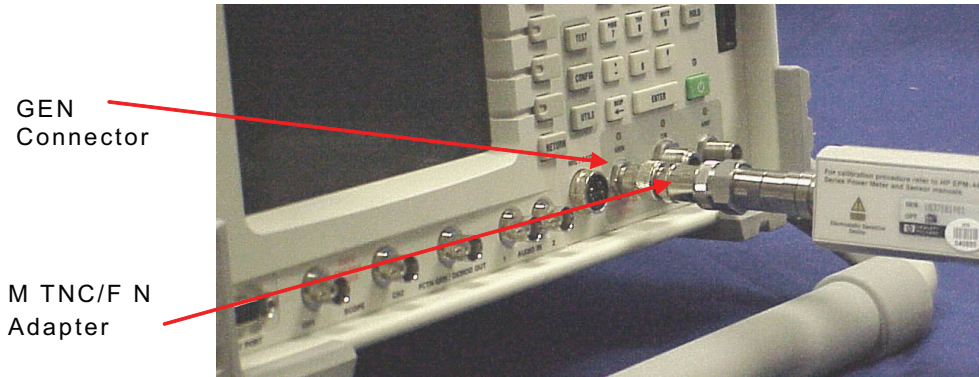

Fig. 4-7 Attenuator Response Calibration Setup
3.	Configure Equipment. Refer to Fig. 4-7 as needed.